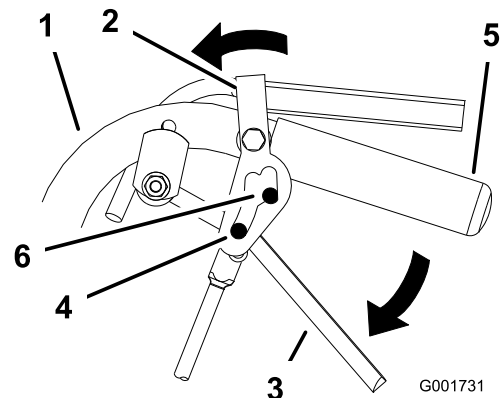

Figure 11
2. Place thumbs on the upper part of locks and move them forward until the pins are in the forward slot (Figure 11).